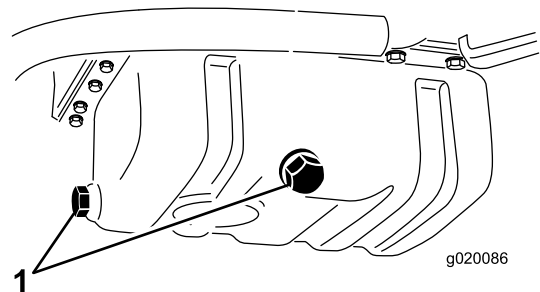

Figure 55
1. Remove either drain plug (Figure 55) and let the oil flow into a drain pan. When the oil stops flowing, install the drain plug.